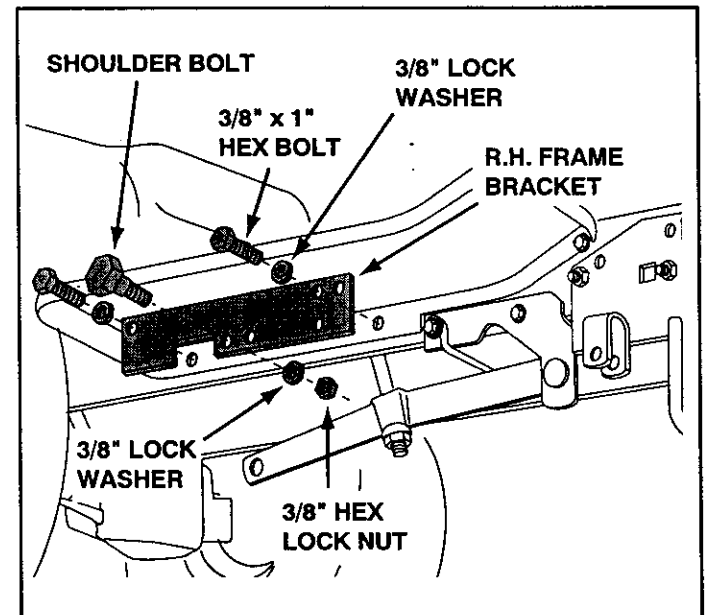

FIGURE 6 RIGHT SIDE VIEW
- Assemble the R.H. frame bracket (no bends) to the holes in the bottom of the R.H. foot rest as shown in figure 6. Use two 3/8" x 1" hex bolts and two 3/8" lock washers.
- Assemble a shoulder bolt to outside of the R.H. frame bracket, securing it with a 3/8" lock washer and a 3/8" hex lock nut. See figure 6.